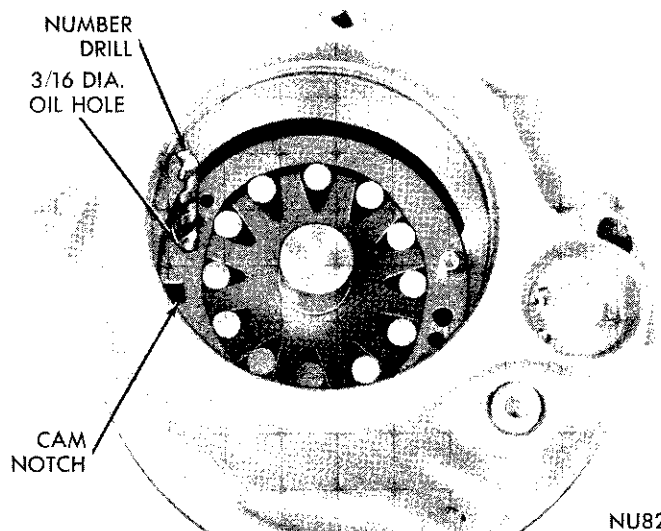

Fig. 29—Aligning Oil Holes
(10) To insure proper alignment of pressure plate to dowel pin, insert the largest possible number drill into the large 3/16 inch diameter oil hole in the cam ring, next to the cam notch. Select from a number 13 through 16 drill, clean thoroughly, and bottom on housing floor (Fig. 29).